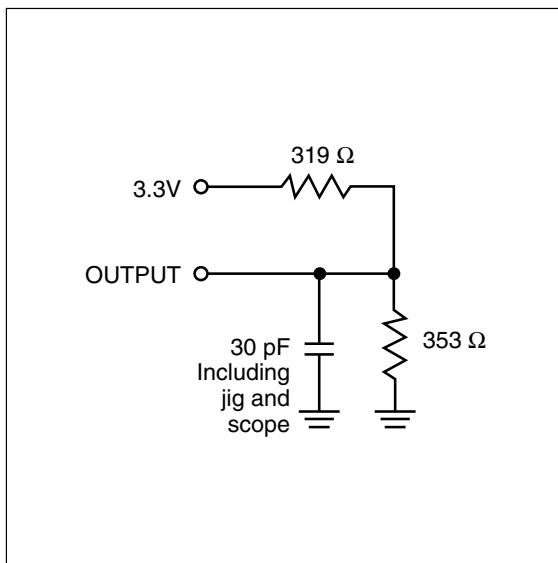

Figure 1a.
- Test conditions assume signal transition times of 3 ns or less, timing reference levels of 1.5V, input pulse levels of 0 to 3.0V and output loading specified in Figure 1a.
Output Load	See Figures 1a and 1b
1. Test conditions assume signal transition times of 3 ns or less, timing reference levels of 1.5V, input pulse levels of 0 to 3.0V and output loading specified in Figure 1a.